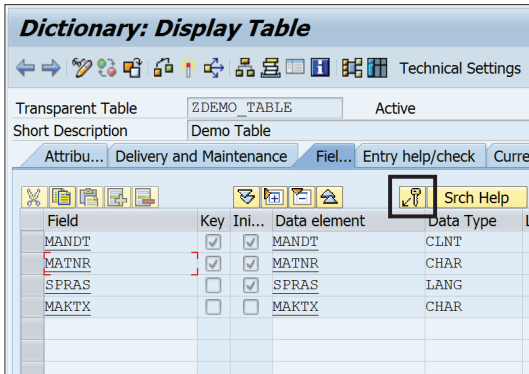

Figure 10.26 Foreign Key
1. On the table maintenance screen, select the table field and click the FOREIGN KEYS icon, as shown in Figure 10.26.